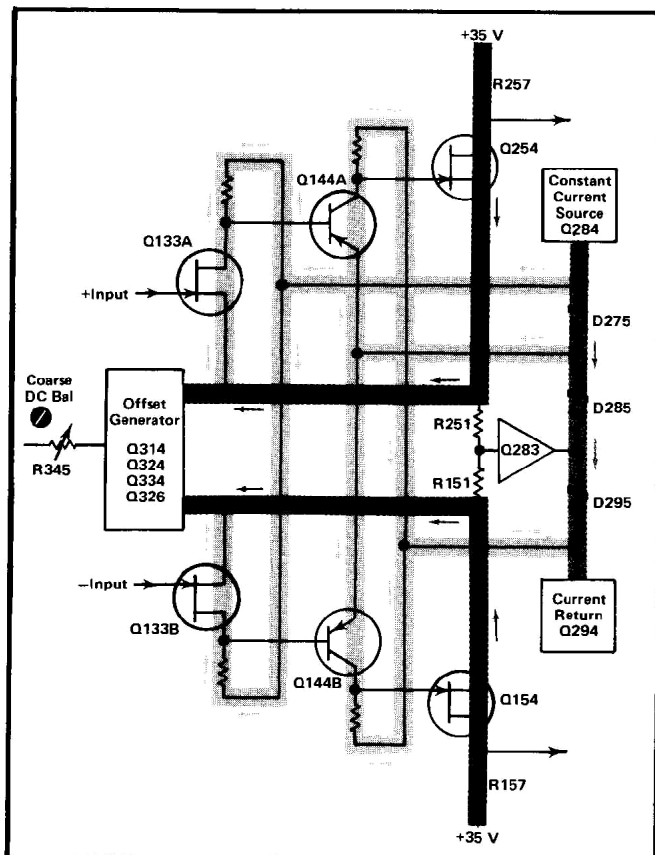

Fig. 3-2. Floating Power Supply and Offset Generator detailed block diagram showing standing current paths through the Preamp.
**Floating Power Supply.** A floating power supply made up of Q283, Q284, Q294, and Zener diodes D275, D285 and D295 minimizes inherent common-mode difficulties and therefore improves the common-mode rejection (refer to Fig. 3-2). Q284 is a constant-current high-impedance source for the Preamp stage, and Q294 is the current return.